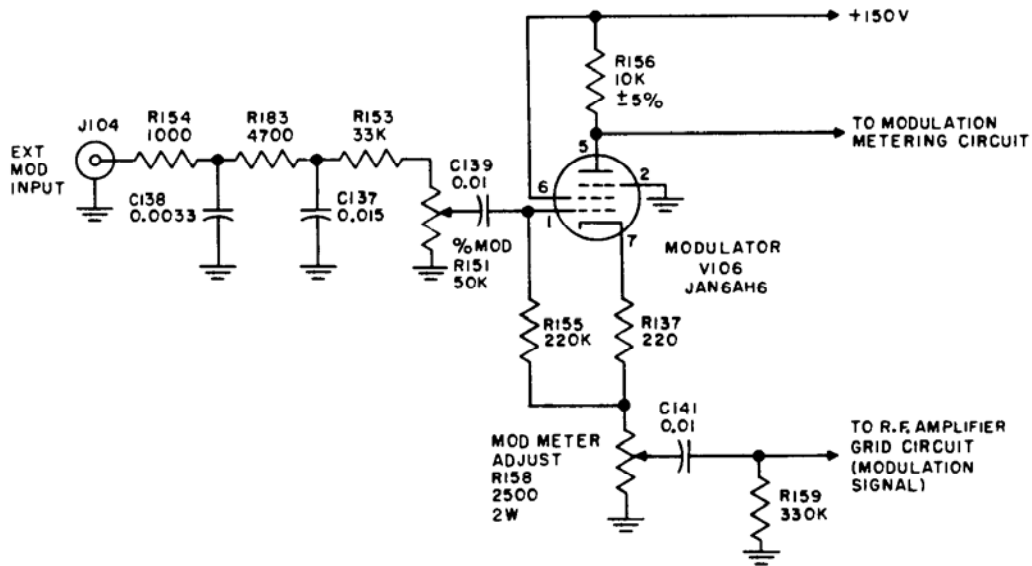

Figure 2-8. Modulator, External Modulation Simplified Schematic
7. MODULATOR. (See figures 2-8 and 2-9.)
c. The input signal to the modulator stage is obtained from either the internal audio oscillator or an external modulation source through J104. The FUNCTION SWITCH (S103) sets the mode of operation. Figure 2-8 shows the signal path for external modulation input. Audio signals enter J104 and are applied across % MOD control R151. RF filter R153, R154, R183, C137 and C138 prevents any RF leakage from the generator, thus reducing a radiation to the external audio source and its connections.